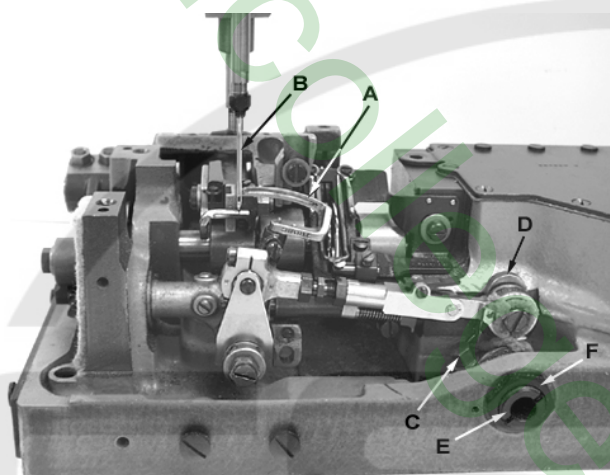

Fig 4
Loosen screw (C, Fig. 4) in looper drive lever (D). A rod of .146-40 thd. or Union Special Screw No. 99271 can be threaded into the looper drive lever rocker shaft through the center of thrust adjusting screw (E). Tap or pull slightly as required to position shaft for proper synchronization. Tighten screw (C) securely and remove rod or screw used to position shaft.